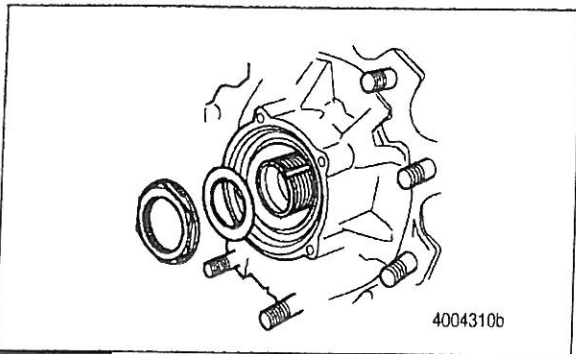

Figure 8
2. Remove the spindle nut from the spindle end. Figure 8. Check to ensure the spindle nut is free of resistance and the threads are not damaged. Fully thread the nut by hand down the entire length of the thread without the stake washer in place. Then remove the nut.